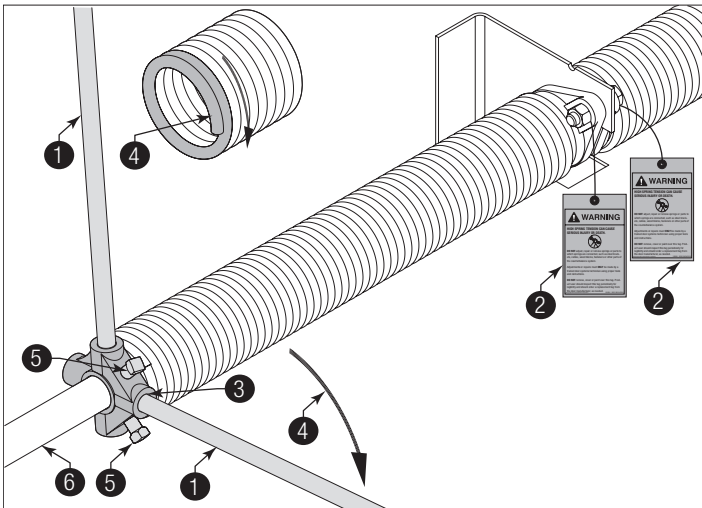

Figure 63
**PRIOR TO WINDING THE SPRING, ENSURE YOU'RE WINDING IN THE PROPER DIRECTION AS SHOWN IN FIGURE 63. OTHERWISE THE SPRING FITTING MAY RELEASE FROM SPRING AND RESULT IN SEVERE OR FATAL INJURY.**